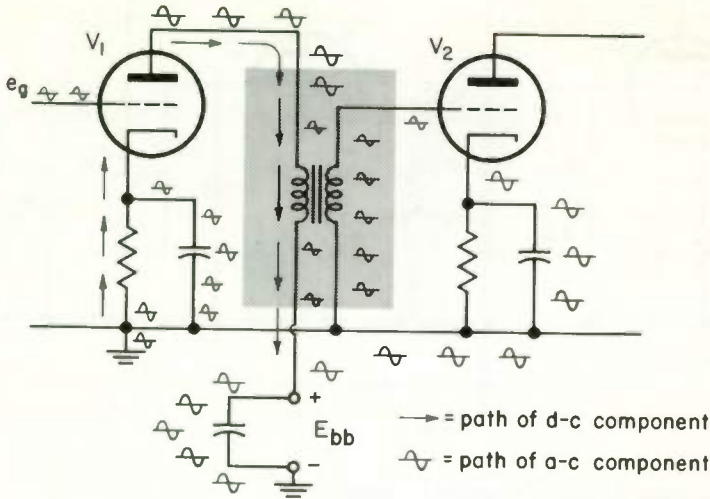

Fig. 6 Transformer coupling.
6 TRANSFORMER COUPLING . . . Transformer coupling is sometimes used to interconnect audio amplifier stages. Such a circuit is shown in Fig. 6.
2. In Fig. 6, the tube has a gain of 18 and the transformer has a step-up ratio of 2.5 to 1. If a steady d-c signal of 2 volts is applied to the grid of V_1 , the signal voltage applied to the grid of V_2 is _____ volts.